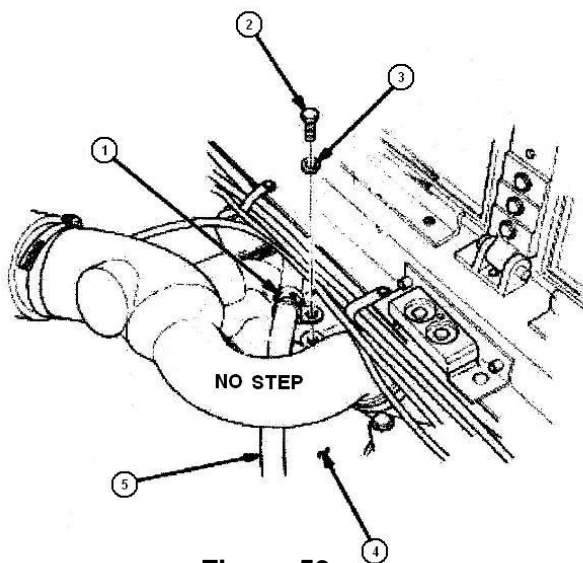

Figure 53
(17) Install MS21333-127 clamp (1) on cable (5) and secure on intake manifold (4) with 11500207 lock washer (3) and 11500929 bolt (2) as shown in **Figure 53**.